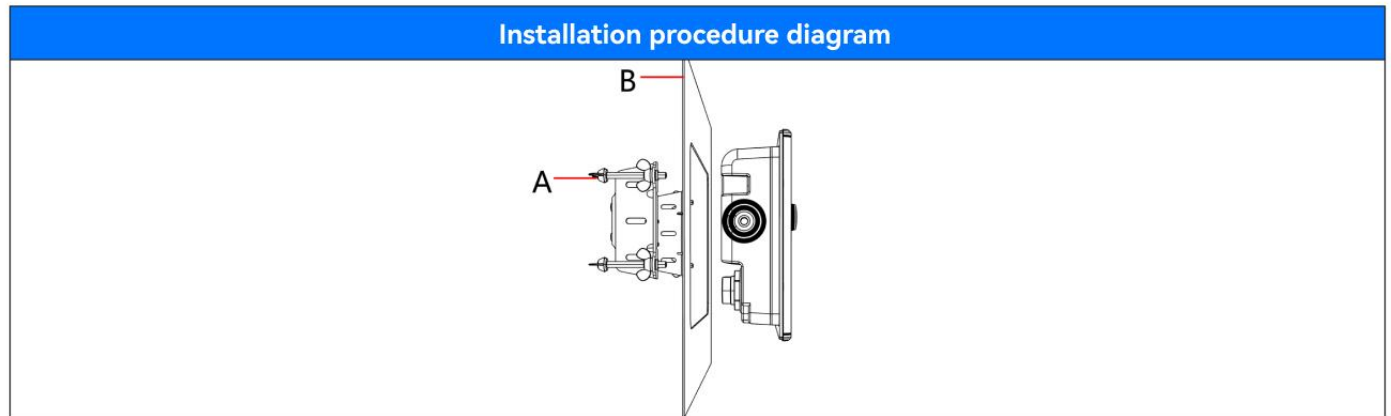

Figure 3.1
1. As shown in Figure 3.1, the multifunctional display unit is installed on the outside of the B mounting surface, and the A fixing component is installed on the inside.